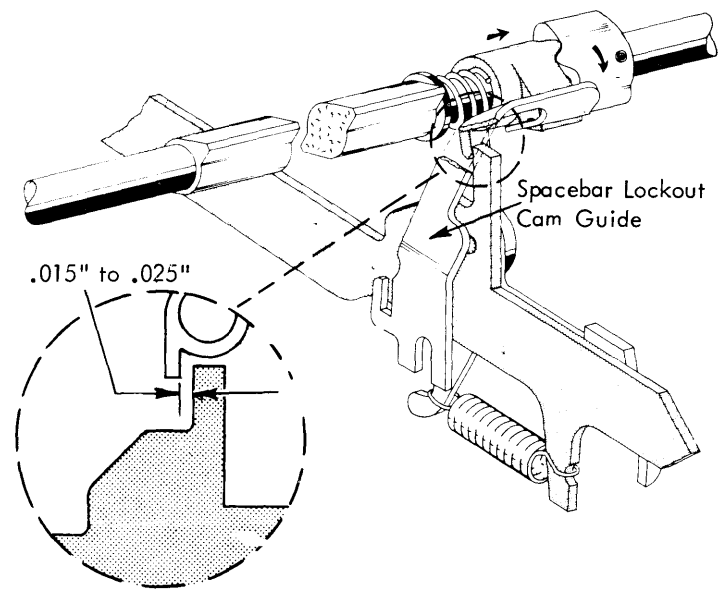

FIGURE 121. Spacebar Lockout Cam Guide Adjustment
- b. Lockout Cam Guide - Adjust the guide up or down so that the spacebar interposer will be allowed to move to the rear .015" to .025" when the interposer is unlatched (Fig. 121). The filter shaft must be rotated until the lockout cam moves fully to the right to check this adjustment.